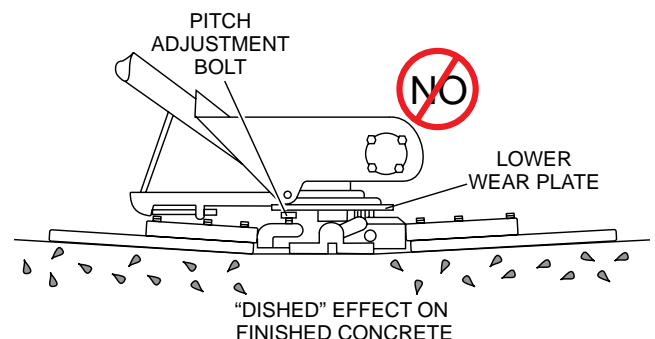

Figure 62. Incorrect Spider Plate Alignment
6. Figure 62 illustrates, "incorrect alignment", worn spider bushings or bent trowel arms.